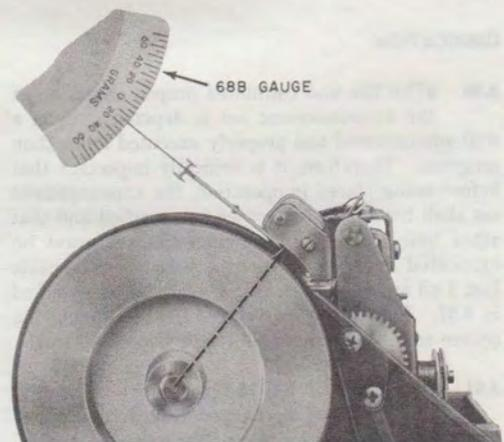

Fig. 14—Magnetic Head Pressure
3.28 *Magnetic Head Pressure (Fig. 14):*